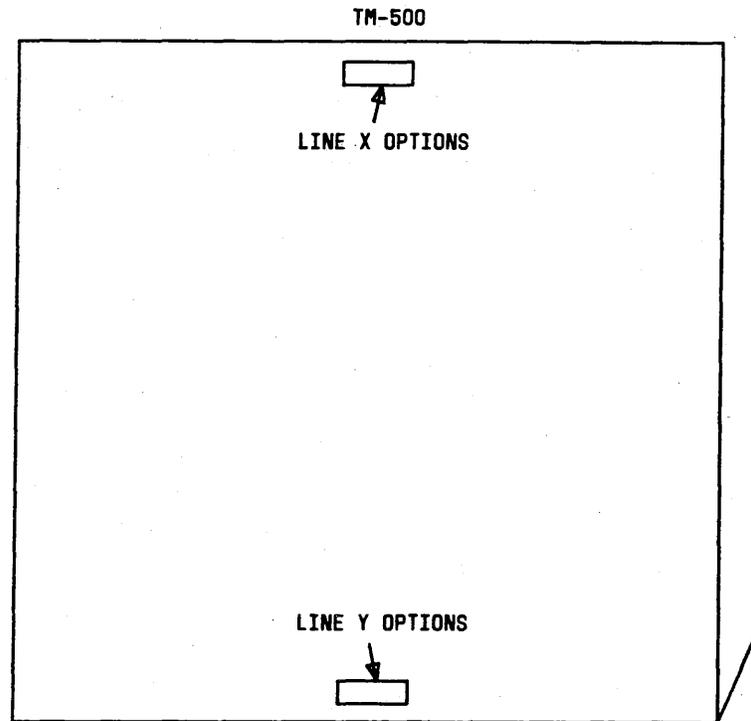

Fig. 11—Circuit Pack TM-500 Options
**3.10** On the component side of the circuit pack is an option switch for line x and an option switch for line y containing eight rockers each for selecting equalization, line format, and framing format. The locations of these switches in relation to the faceplate lever are shown in Fig. 11.